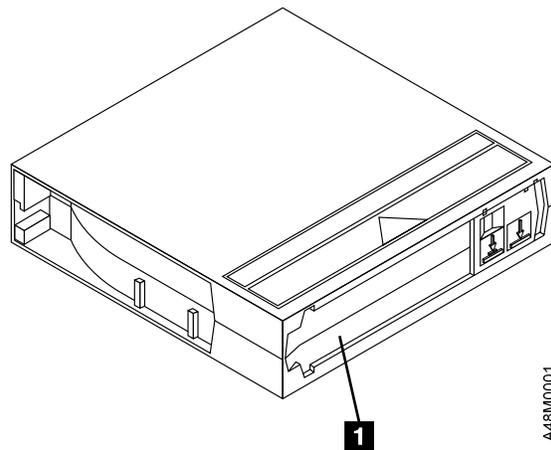

Figure 11. Placement of Label on the Data Cartridge
The IBM DLT cleaning cartridge is shipped with labels to be used for tracking the number of times the cartridge has been used. Each label has 20 small boxes. Slide the label into the edge of the cartridge (see Figure 11 on page 28) and each time the cartridge is used, mark a box with a pen. When all of the boxes have been marked (indicating 20 uses), the cartridge should be discarded.
Use the data cartridge for saving or restoring your programs or data. Place the label in location **1** as shown in Figure 11.
- Never stack the tape cartridges in stacks of more than five (5).
- Do not adhere labels to a cartridge anywhere except in the slide-in slot (see Figure 11 on page 28). Never apply adhesive labels or POST-IT notes on the top, side, or bottom of the tape cartridge. Only use the slide-in type labels provided with each cartridge.